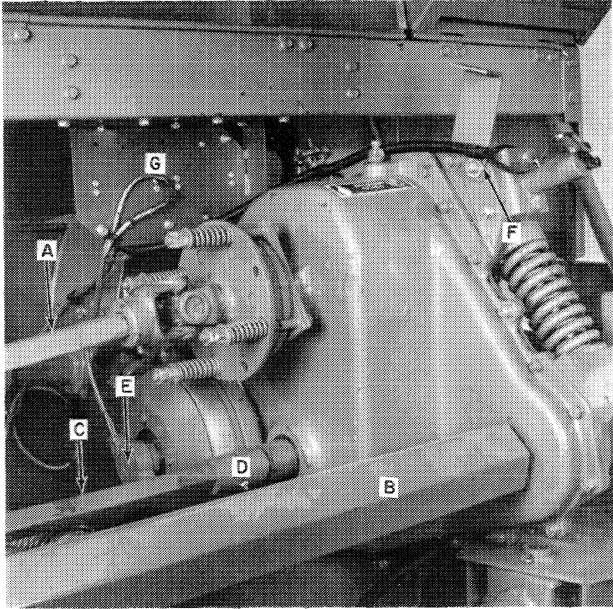
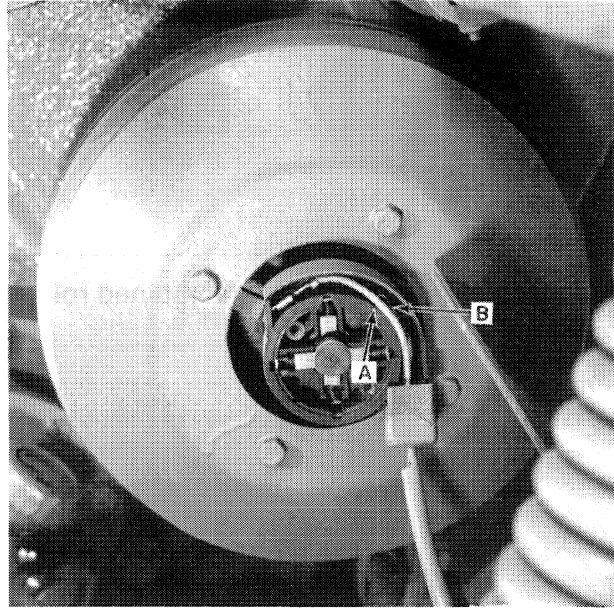

FIGURE 1-3
FIGURE 1-4
3. Remove the upper feed roll drive shaft, A, Figure 1-3.
4. Remove the shield, B, Figure 1-3, over the attachment drive shaft. Remove the attachment drive shaft.
5. Remove the lower feed roll drive shaft, C, Figure 1-3. To remove the shaft, remove the paint from the end of the shaft next to the gearbox and slide the sleeve, D, toward the feed rolls. The shaft should then be able to slide to the left by the gearbox shaft. If not, the shaft can be removed as the gearbox is lifted out of the machine.
6. Remove the cover, E, Figure 1-3, over the brush box on the electric clutch. Disconnect the two wires, A and B, Figure 1-4. Reinstall the cover to keep the brushes in place.
7. Metalert® only - Remove the wire harness, F, Figure 1-3, for the stopping system solenoid and pawl switch.
8. Remove the terminal block mounting bracket, G, Figure 1-3, and position out of the way.